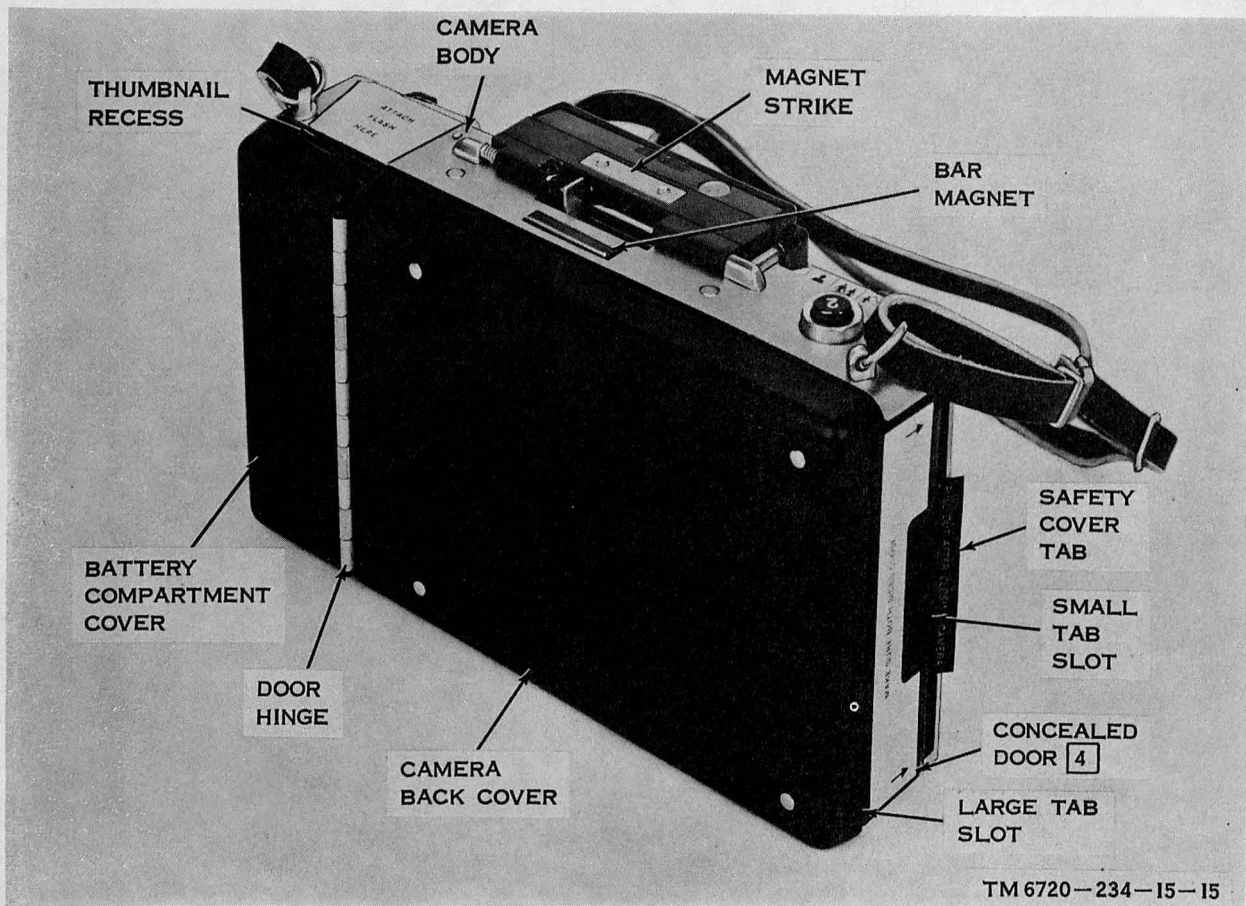

Figure 3-5. Camera, right rear view, with safety cover pull tab showing.
h. Close the camera back cover (fig. 3-5); make sure that both sides latch and that the safety cover pull tab sticks out of the small tab slot to the right of concealed door 4.
c. Press the release lever, and seat the flashgun on top of the camera body. Release the release lever, making sure that the movable clip engages the top rear edge of the camera body (fig. 3-5) just in front of the thumbnail recess.